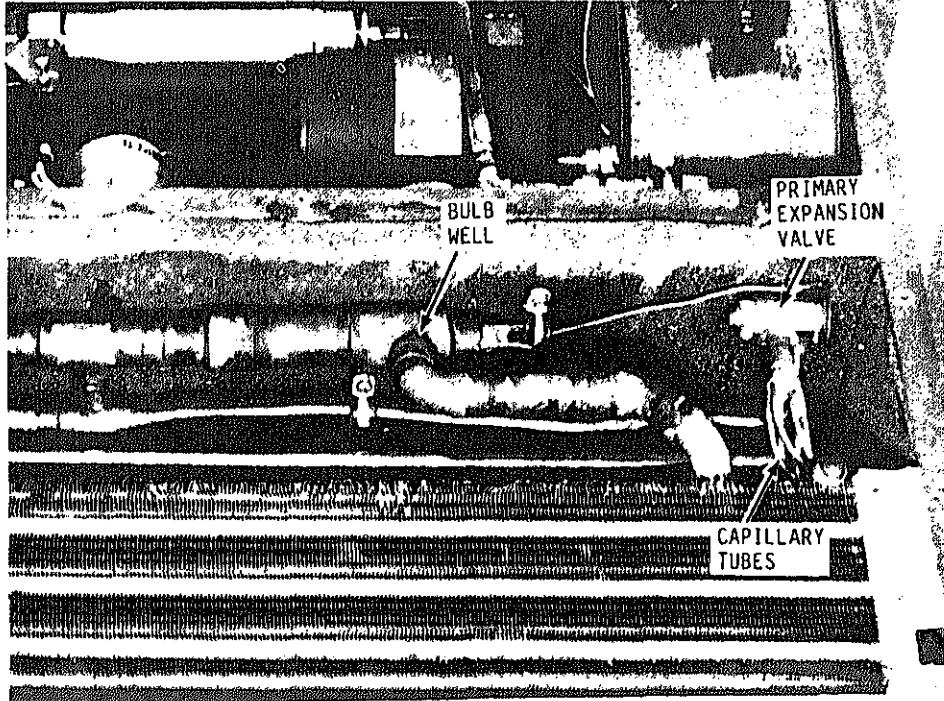

Figure 4-22. Expansion valve, primary
(2) Refer to figure 4-22 and para 5-29c(4) and check that the required length of the expansion valve's sensing bulb is fully in the suction line bulb well.
(3) Refer to figure 4-22 and examine the flow restrictor capillary tube carefully. They should be very cold and evenly frosted. Unfrosted tubes are blocked and should be re-placed.
(4) If none of the capillary tube is cold and frosted, the valve is
c. Test. Test the power assembly by removing the valve's sensing bulb from the suction bulb well (figure 4-22). Hold the sensing bulb firmly in both hands for two or three minutes. The warmth from holding the bulb should put enough pressure on the bellows to start the refrigerant flowing into the system. If cooling does not commence, the expansion valve is defective and should be replaced. Report all defects to direct support maintenance.